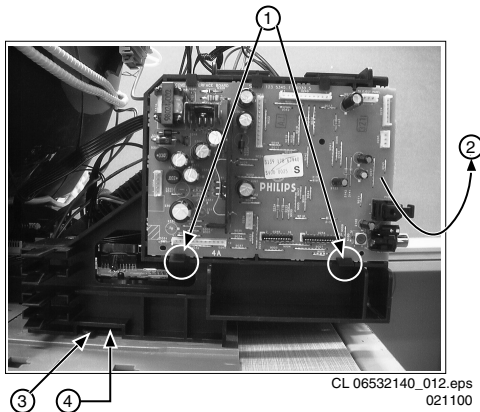

Figure 4-1
For better accessibility of the panel, remove the complete PWB from its bracket. Therefore release the two clamps at the side of the bracket [1] and lift the panel out [2], **Fig. 4-1**. (For measuring safely when the LSP is in service position, remove the bracket from the bottom tray by pulling it backward while lifting the clamp [3]. Then pull it upward [4], **Fig. 4-1** and replace the panel into the bracket.)
- Remove the DVD Interface module from the bottom tray. Therefore lift the clamp [3] and pull the module backward [4], **Fig. 4-1**. Place the module left from the TV.